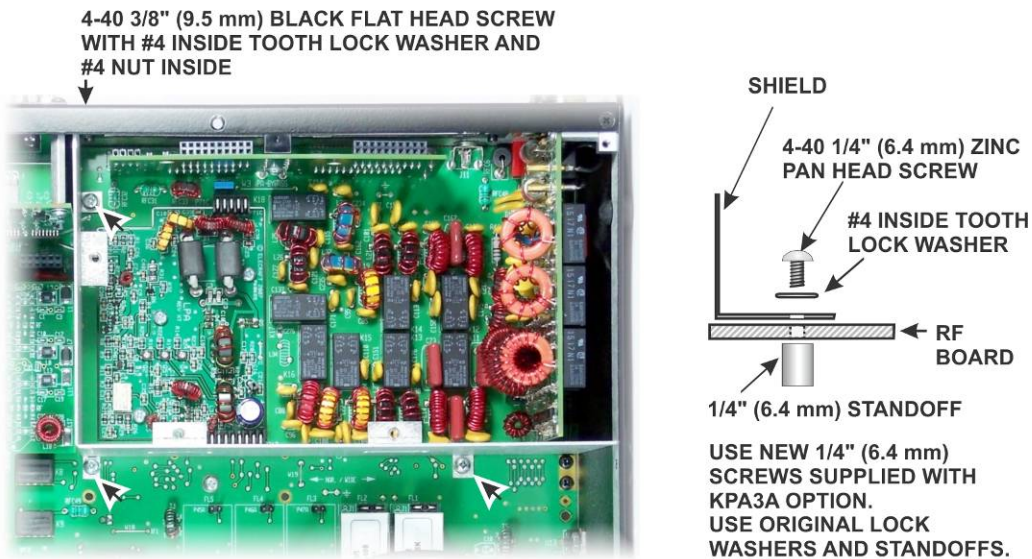

Figure 8. Rear Shield Installed.
- ☐ Loosely secure the rear shield with three 1/4" (6.4 mm) zinc pan head screws, the lock washers and standoffs you removed earlier as shown in Figure 8.
- ☐ Place a black 4-40 3/8" (9.5 mm) flat head screw through the hole in the back panel and the tab at the top edge of the shield as shown in Figure 8. Secure it with a #4 inside tooth lock washer and 4-40 nut.